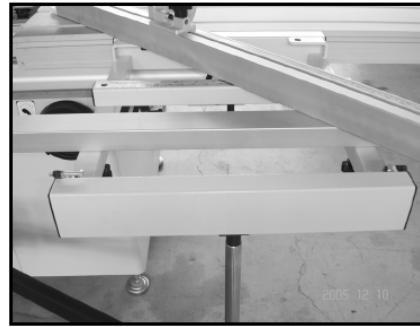

Fig. 57
1. Install the crosscut fence to the forward 90° stop (Fig. 57) and lock it in place.
Note : Drop the crosscut fence in the center stud hole and rotate it to the 90° stop. Check to make sure the fence is at 90° and adjust it. (Fig. 57)